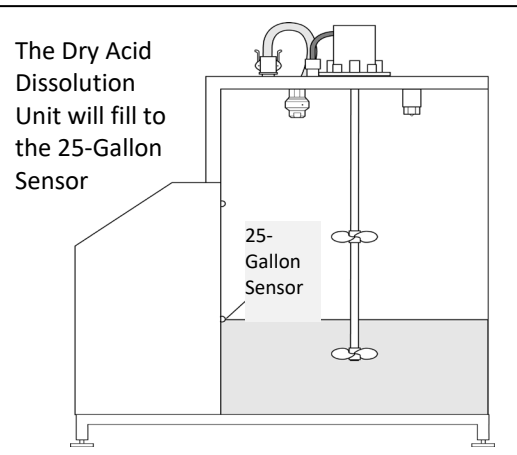

Figure 20
2. Once the 25-Gallon Sensor is reached, the control panel will automatically step to the first RECIRCULATE Operation (Figure 20). With your safety glasses on, lift the Access lid and check for correct spray ball operation. See figure 4 on page 12, for the illustration of correct or incorrect spray ball operation.